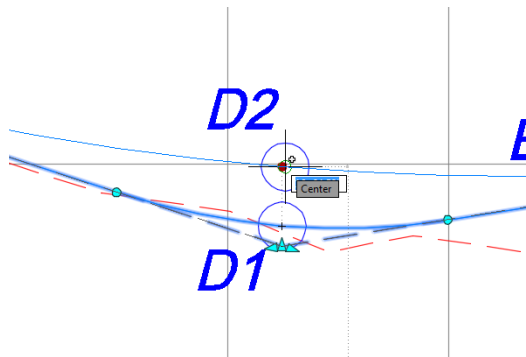

FIGURE 7.6 Moving the pass-through point grip
- Click the circular grip located at the center of circle D1, and move it to the center of circle D2, as shown in Figure 7.6.